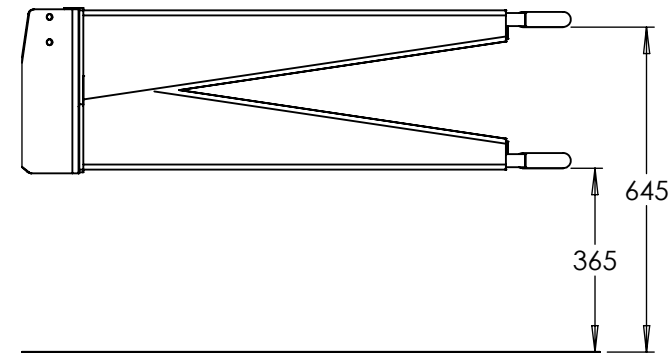

Fig. 6.2
Before attempting to hitch the wrapper to the tractor remove the lower links of the tractor to avoid them touching the drawbar (1). The machine can be hitched to the tractor using the towing hook of the tractor. Prior to hitching to the tractor the correct height of the hitch eye (2) must be determined. Please note that the drawbar can be turned upside down (See Fig 6.2) to accommodate a high or low attachment level, height adjustment can also be achieved by choosing one of three heights when connecting drawbar to the Chassis front adjustment plate (3). There are three types of drawbars available with this machine providing three hitching options depending on the tractor towing mechanism; Standard Hitch (shown), Clevis Hitch & High Hitch. Once an appropriate hitch height has been determined the Chassis height can be raised and lowered by turning the handle on the jack (1) clockwise and anti-clockwise respectively. Once the machine has been hitched to the machine fully re-tract the jack by turning the handle clockwise.